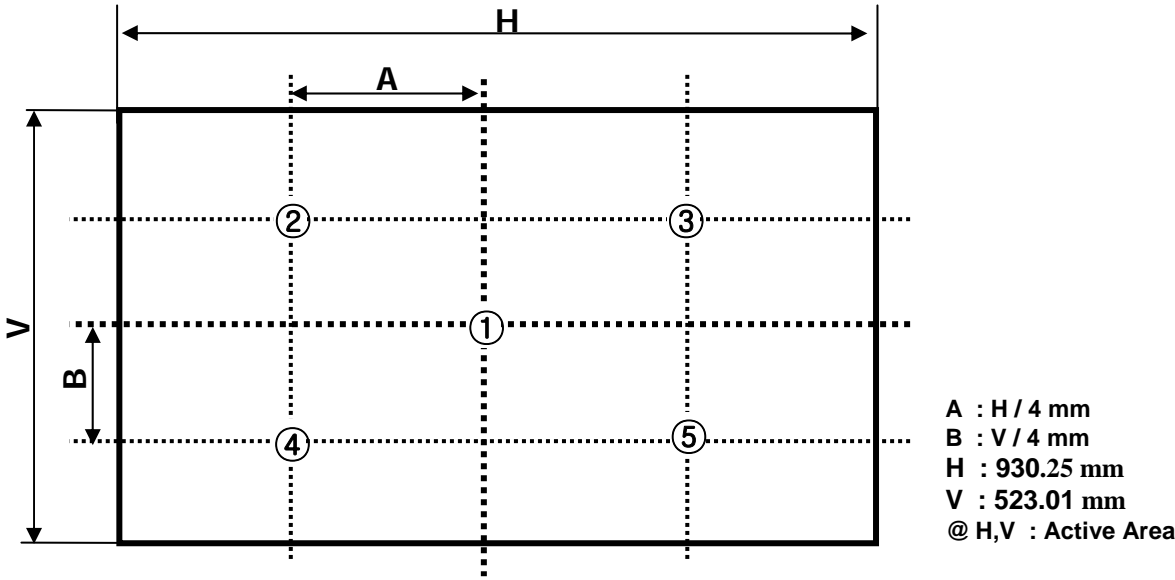

FIG.2 Measure Point for Luminance
2. Surface luminance is determined after the unit has been 'ON" and 30min after lighting the backlight in a dark environment at $25 \pm 1^\circ\text{C}$. Surface luminance is the luminance value at center 1-point across the LCD surface 50cm from the surface with all pixels displaying white. for more information see the FIG. 2.
For more information, see the FIG. 2.